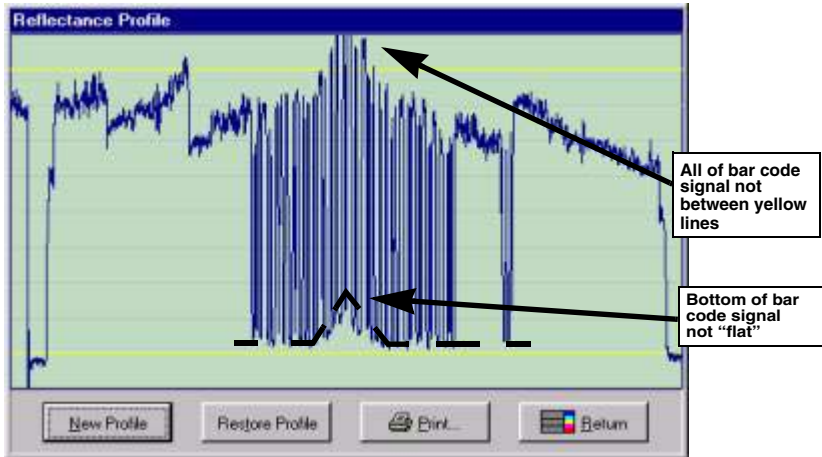

Figure 3 - Examples of Scan Profile Parameters Out of Range
9. If the bottom of the signal is not flat, change the scan angle and repeat steps 3 -7. If the code's signal amplitude is not within the yellow lines, follow the Setup procedure by using the ~Hd commands (page 6-10). (See "Figure 3 - Examples of Scan Profile Parameters Out of Range" on page A-5)
13. If the bottom of the signal is not flat, or the signal level is not within the yellow lines (see "Figure 3 - Examples of Scan Profile Parameters Out of Range" on page A-5), or at least 5 lines in amplitude, the material used in the application is not adaptable to scanner settings compatible with the calibration symbol. Use steps 3-8 to adjust the scanner gain